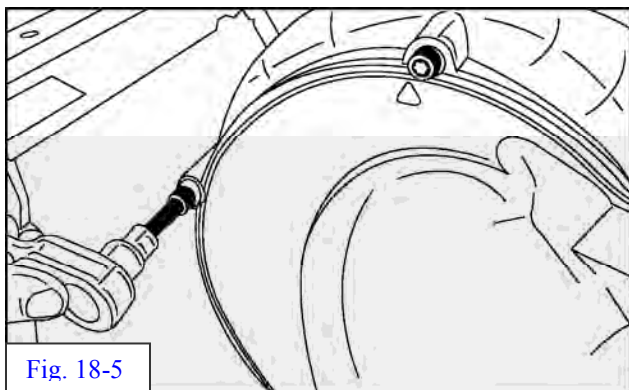

Fig. 18-5
- (f) Fit TRD inlet manifold to supercharger. NOTE: Use a small amount of motor oil or equivalent to lubricate the intake bore and O-ring surface interface prior to assembly. Be sure to align manifold so that all hoses are free from kinks and away from any sharp edges. (Fig 18-5).
- (g) Utilizing the 3 TRD supplied 6 x 1.0 x 16mm SHCS and three 6 mm flat washers, clamp down TRD inlet manifold to supercharger assembly. 5 mm Allen wrench. (Fig. 18-5). **Torque to 15 inch-lbs.**